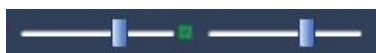

Figure 8-3 Default Color Range Dialog Box
- 1) Click the Color Bar Settings button () in the toolbar to display the Default Color Range dialog box (Figure 8-3).